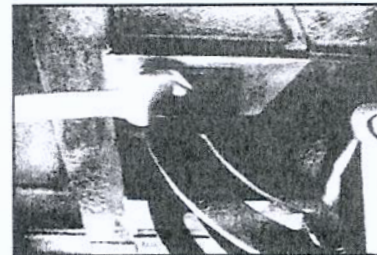

Fig. 3
- To mount table, remove table insert and table pin from the table. Slide the table slot to the saw blade, slow moving to the center to table, make sure the table is located to the m8 hole (4 hole) and attach the spring washer, (Fig. 3) then replace table insert and table pin.